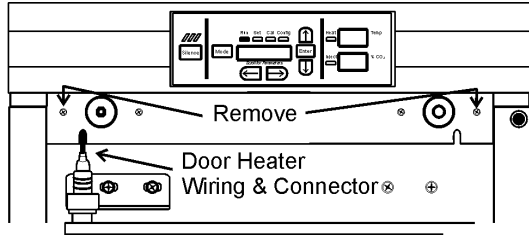

Figure 6-4
2. Open the exterior cabinet door and remove the two screws shown in Figure 6-4.
6. When wiring is completed, slide the electronics drawer back in being very careful to place the door heater cable back into the provided slot so that the drawer does not pinch the cable. See Figure 6-4.